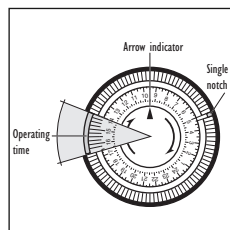

fig. 2
c) Models with a 24 hour time-clock (fig. 2)